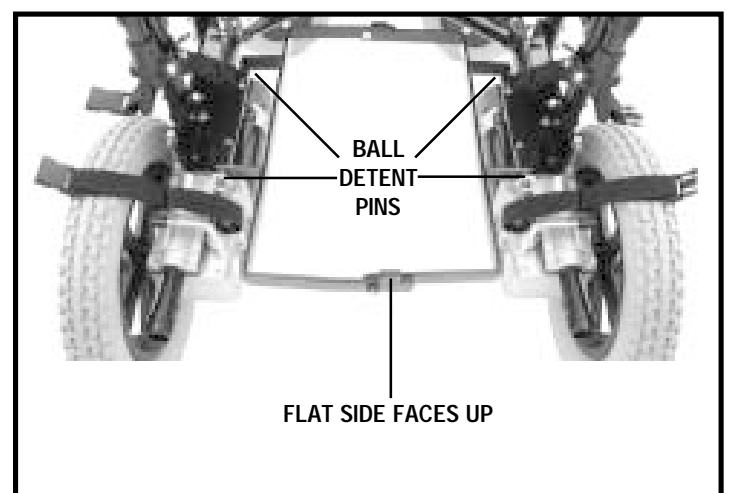

Figure 14. Battery Frame Installation
3. Install the battery frame. See figure 14. Make sure the tabs are facing upwards so that the middle of the tray can only fold up.